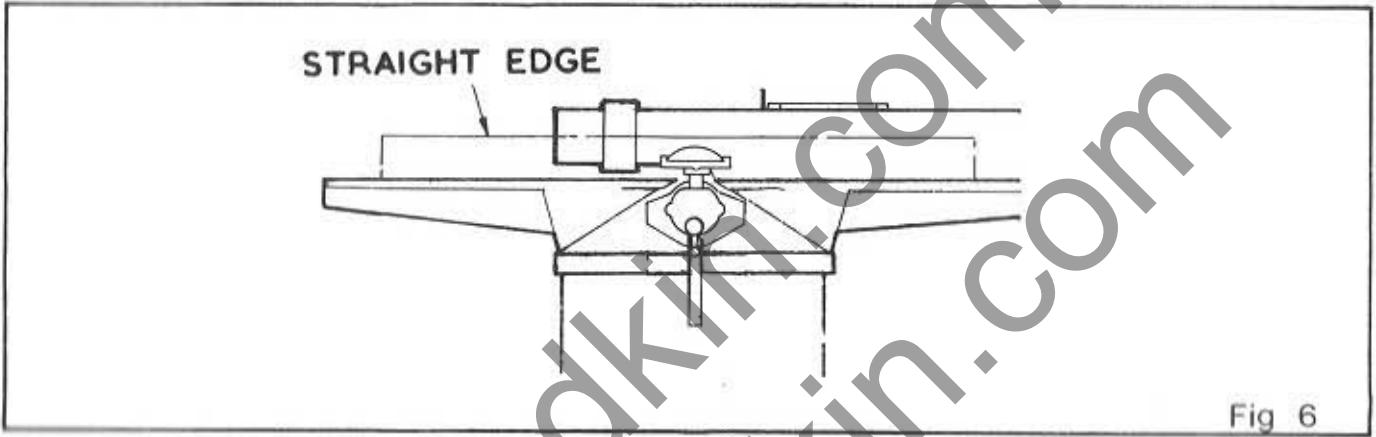

Fig 6
6. To check the setting of the knives raise the back table to its top position i. e. the zero mark on the rule or 1.5mm above the outer surface of the cutterblock. Place a straight edge on the table as shown in Fig. 6 and rotate the cutterblock by hand until the knife just touches the straight edge. Repeat this check in various positions over the width of the table to ensure the knife is parallel. Repeat this procedure for all knives.